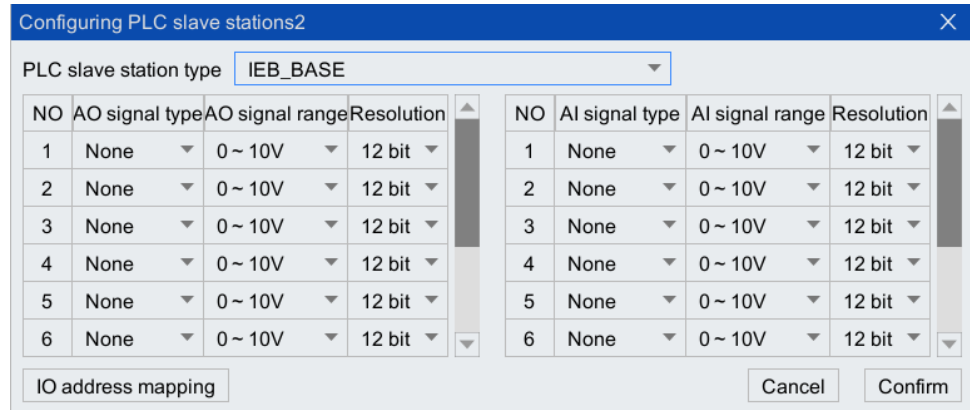
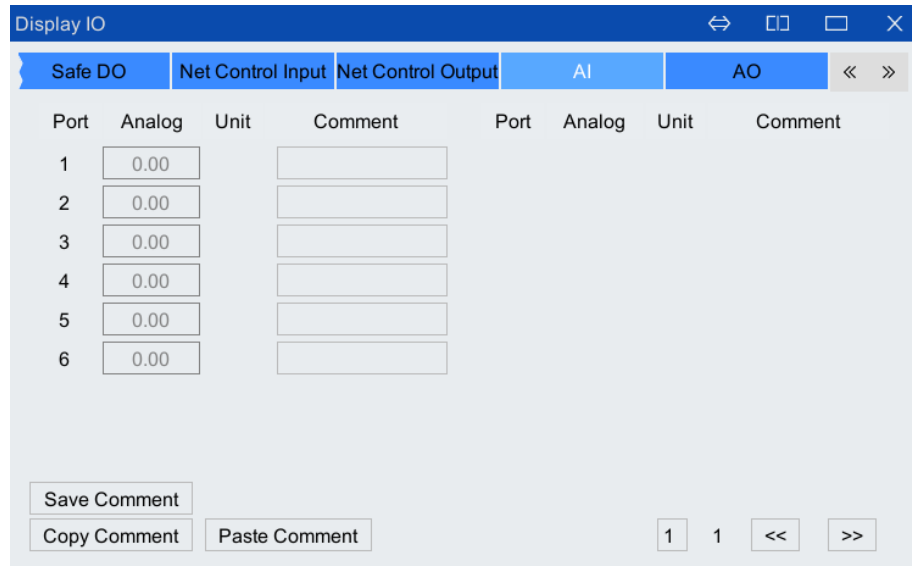
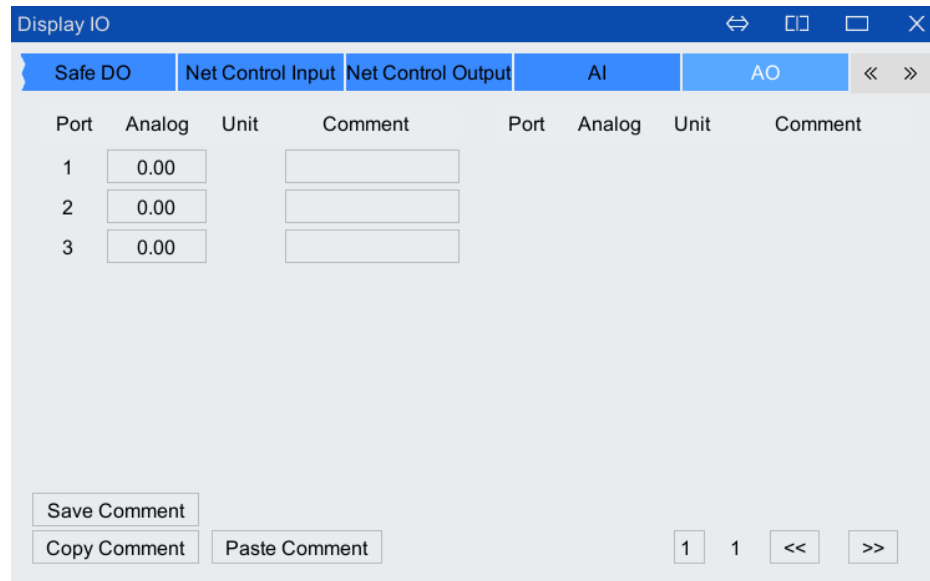

Figure 6-35 IEB\_BASE slave configuration
Figure 6-36 "AI" Real-time display of analog in the interface
Figure 6-37 Real-time display of analog quantity in "AO" interface
Step2.Configure IEB\_BASE slave station. Please refer to Chapter 8.3.4 for the configuration method. Please refer to Figure 6-35 for the completed configuration interface.
Step4. The "Port Number" 1-6 shown in Figure 6-36 corresponds to the "AI signal type" 1-6 in Figure 6-15; the "Port Number" 1-3 shown in Figure 6-37 corresponds to Figure 6-35. The "AO signal type" in 1-3 corresponds to 1-3. Please refer to Table 6-21 for the setting description in the "AI/AO" interface.